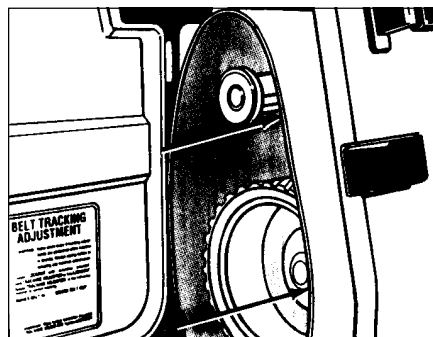

Figure 8
7. Install a new abrasive belt by sliding the abrasive over the tension roller and contact wheel. See figure 8. See table on page 12 for abrasive belt selection.